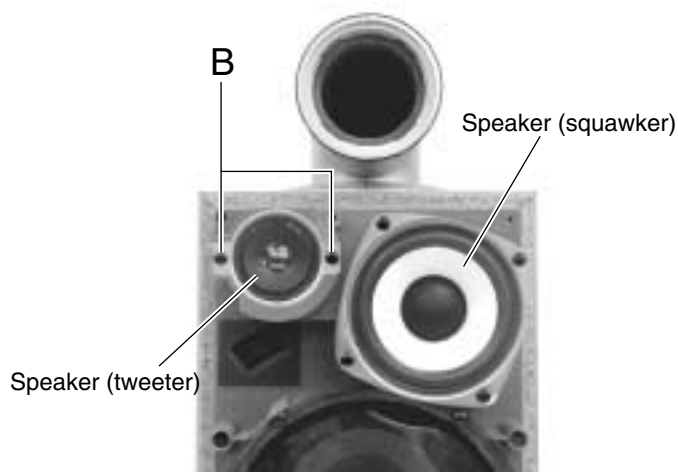

Fig.2
■ Removing the speaker (tweeter) (See Fig.2)
■ Removing the CD tray assembly (See Fig.2~4)
1. Remove the front panel assembly. (See Fig.2~4)
4. From the T.bracket section "b" and clamber base section "c", remove both of the edges fixing the rod(See Fig.2 and 3).